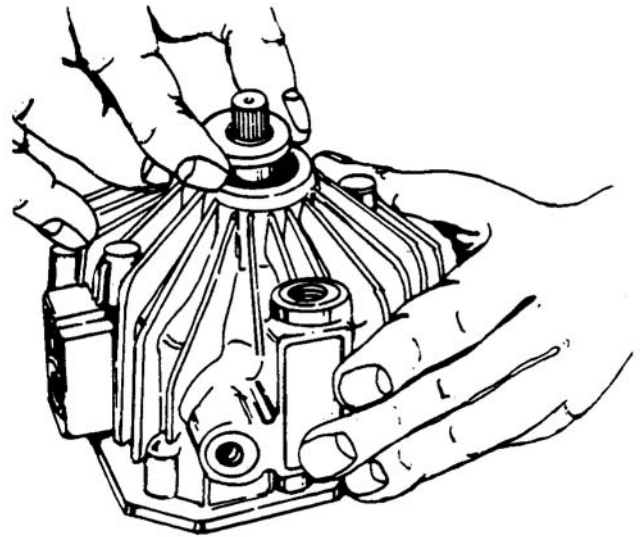

Figure 6-42. Installing Spacer
- e. Place spacer on bearing. See Figure 6-42.